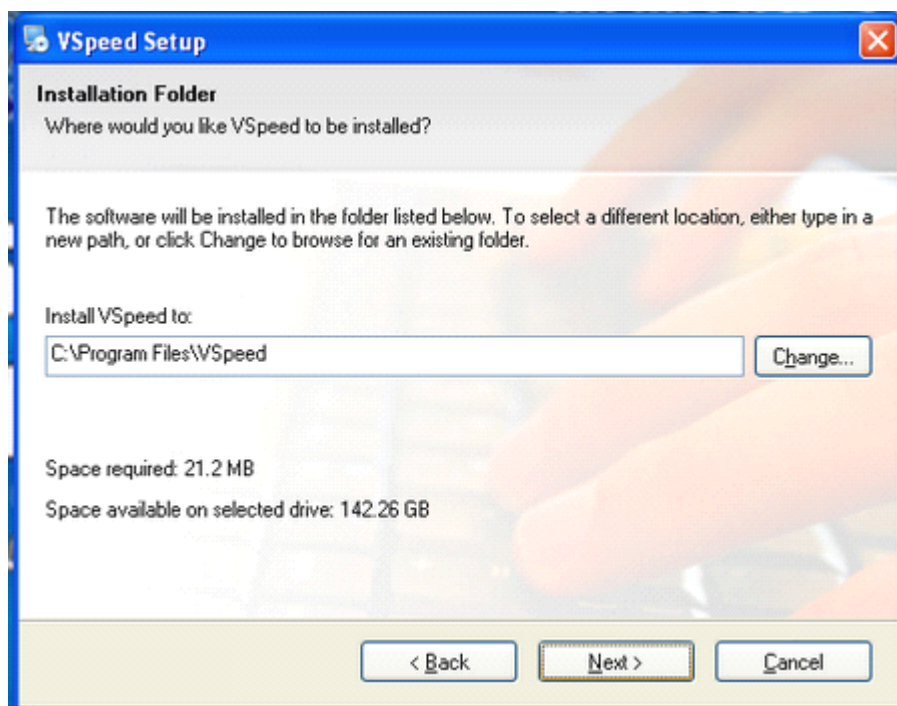

Figure 3: VSpeed Setup Setup Location
(3) Click "Next" button. The window will be changed to Figure 3. You can specify the setup location in here or accept the default. And then click the "Next" button to go on